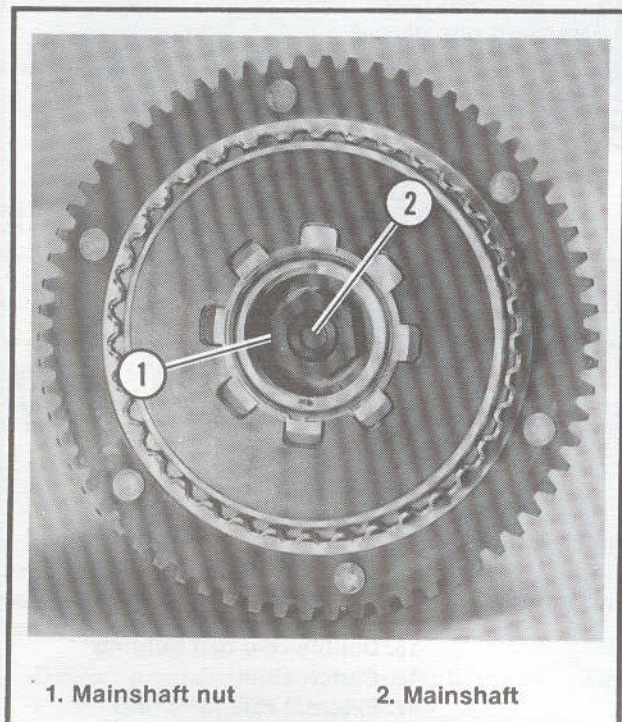

Figure 6-13. Mainshaft Nut
3. See Figure 6-13. Place transmission in 5th gear and apply rear brake. Remove mainshaft nut (1) from the end of transmission mainshaft. The nut and shaft have left hand threads.
2. See Figure 6-13. Apply two drops of Loctite 262 (red) to the threads of mainshaft nut (1). Thread nut onto shaft, turning in counterclockwise direction because of left hand thread. Tighten nut to a torque of 70-80 ft-lbs.